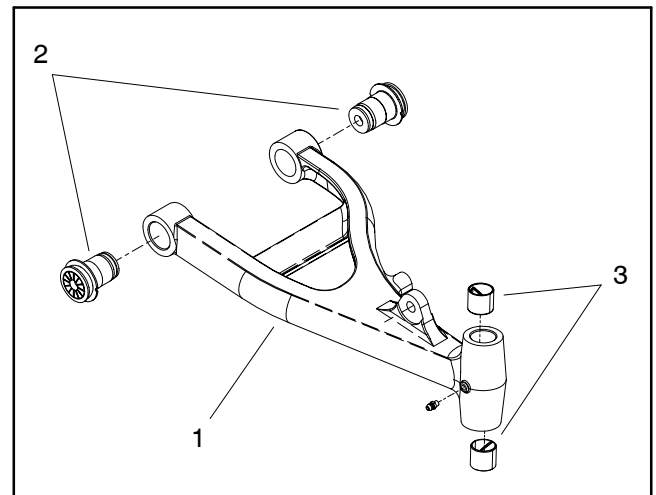

Figure 10
4. Remove cap screw (item 7), flat washer (item 5) and lock nut (item 6) that secure lower end of shock absorber to A-arm.
6. Remove both cap screws (item 19) and lock nuts (item 6) that secure A-arm to frame. Pull A-arm from frame.
7. If necessary, remove flange bushings and straight bushings from A-arm bores (Fig. 10).
1. If bushings were removed from A-arm, press new bushings fully into bore of A-arm (Fig. 10).
2. Position A-arm to the frame. Secure A-arm to the frame with cap screws (item 19) and lock nuts (item 6). Insert front screw from front of machine and rear screw from rear of machine. Do not fully tighten nuts.
3. Position lower end of shock absorber to A-arm and insert cap screw (item 7) with flat washer (item 5) from rear of shock. Secure with lock nut (item 6).
4. Fully tighten lock nuts (item 6) to secure A-arm to machine frame.